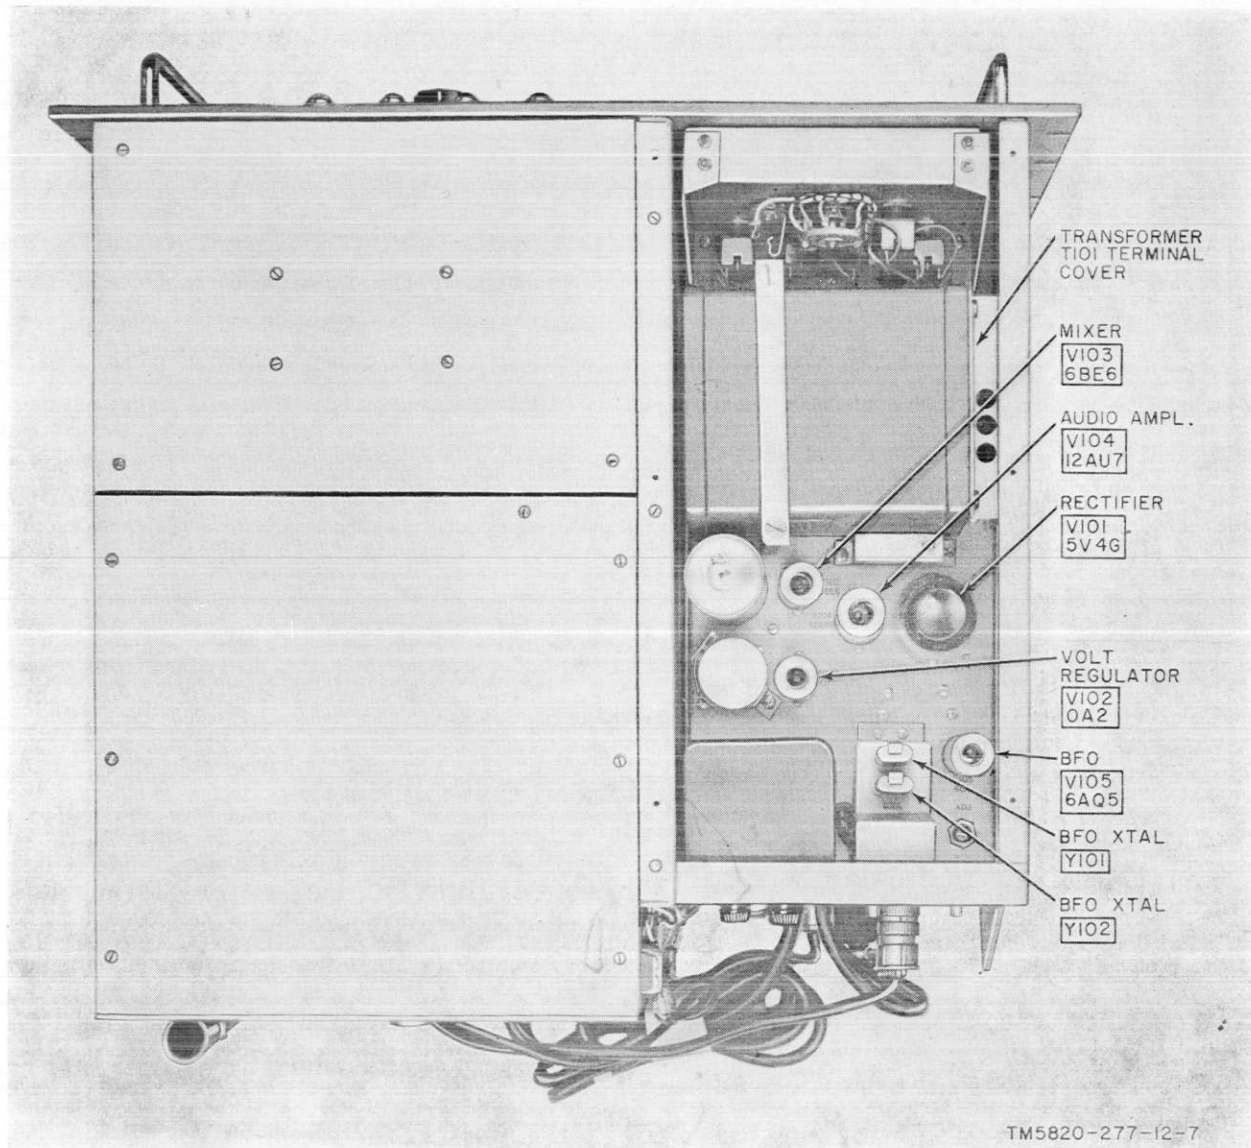
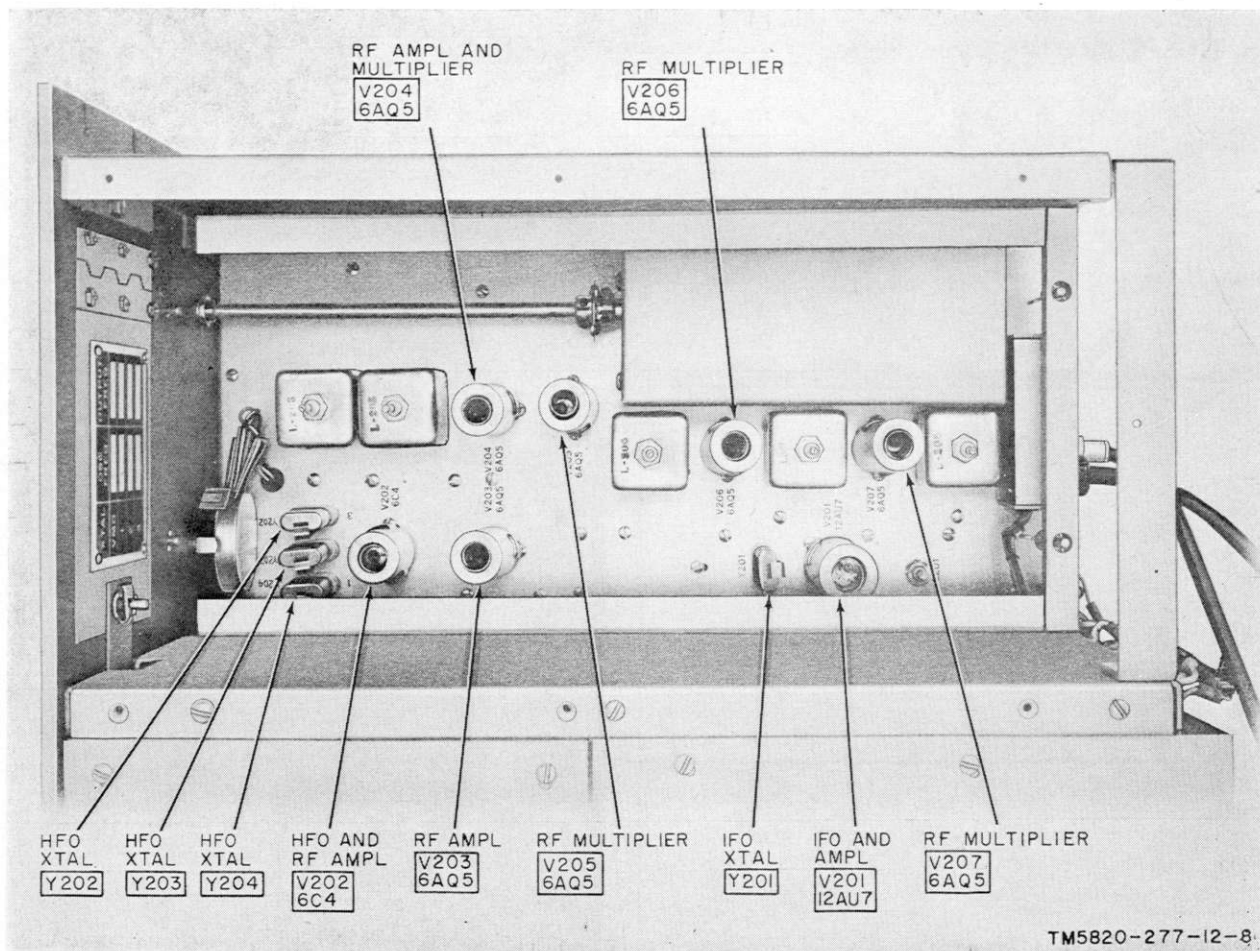

Figure 6. Variable frequency oscillator, top view.
Figure 7. Rf multiplier chassis, top view.
c. The left side of the variable frequency oscillator has a meshed top cover. This can be removed to reach the top of the power supply chassis (fig. 6) or, when the power supply chassis is removed, to reach the top of the rf multiplier chassis (fig. 7).
- b. Remove the transformer T101 terminal cover (fig. 6) by removing the four screws.
a. HFO section. For crystal-controlled HFO operation, as an alternate to using the VMO, provision is made for inserting up to three crystals in the HFO section. These crystals, Y202, Y203, and Y204 (fig. 7), must be between 2 and 4 mc; the actual crystal frequencies are determined by the output frequencies required. The output frequency will be the same as the crystal frequency if the BAND-MCS switch is in the 2-4 position. The output frequency will be twice the crystal frequency when the BAND-MCS switch is in the 4-8 position; 4 times the crystal frequency when in the 8-16 position; 8 times the crystal frequency when in the 16-32 position; and 16 times the crystal frequency when in the 32-64 position. Record the crystal output frequencies in the space provided on the inside of the access door (fig. 10).
b. IFO section. The IFO section requires the use of crystal Y201 (fig. 7), in the range of 3.2 to 3.9 megacycles. The IFO output frequency is the same as the crystal frequency.
c. BFO section. The BFO section requires the use of a crystal. A choice of one of two crystals is provided by the crystal selector switch (fig. 3) on the rear panel. Crystals Y101 and Y102 (fig. 6) must be in the range of 300 to 1,000 kilocycles; the output frequencies are the same as the actual crystal frequencies used.